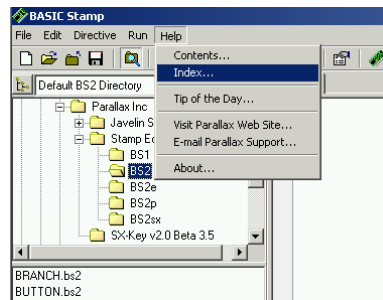

Figure 1-44
- ✓ In the BASIC Stamp Editor, Click Help, then select Index as shown in Figure 1-44.